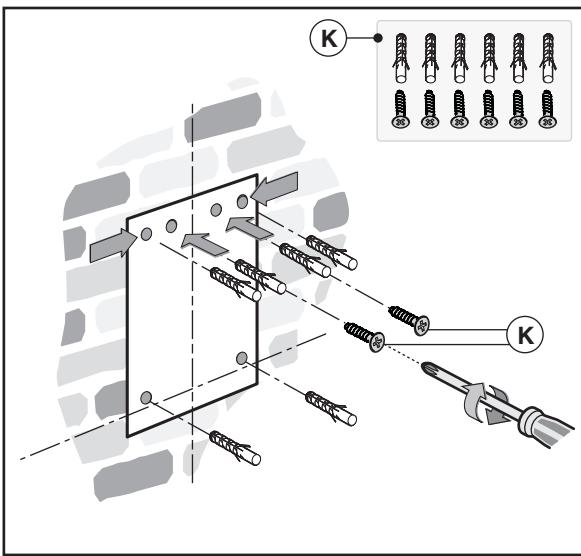

Fig.4
-Mark the fixing holes and cut them into the material (**Fig.4**).
- Fix the 2 top screws **K** and screw anchors (**Fig.4**), without tightening them completely.